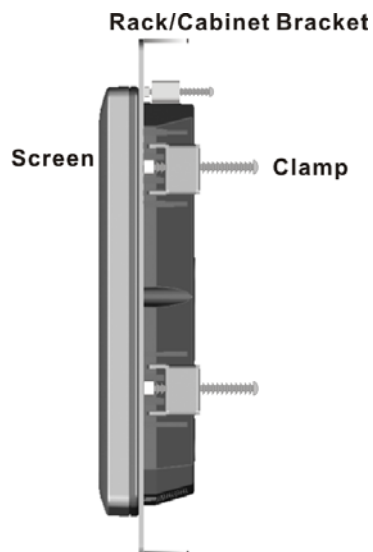

Figure 3-16: Secure the Rack/Cabinet Bracket
- Step 3:** Tighten the screws that pass through the rack mounting clamps until the plastic caps at the front of all the screws are firmly secured to the bracket (Figure 3-16).